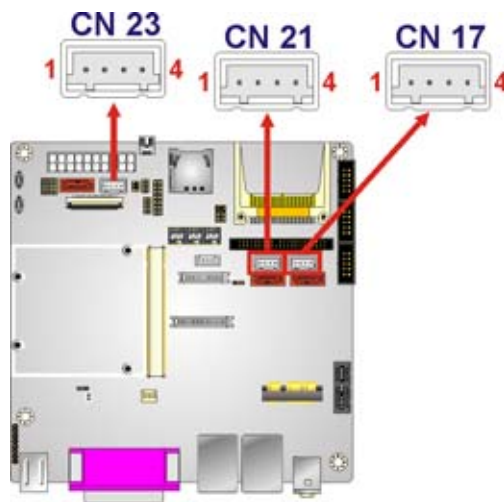

Figure 4-18: SATA Power Connector Locations
- CN Location:** See Figure 4-18